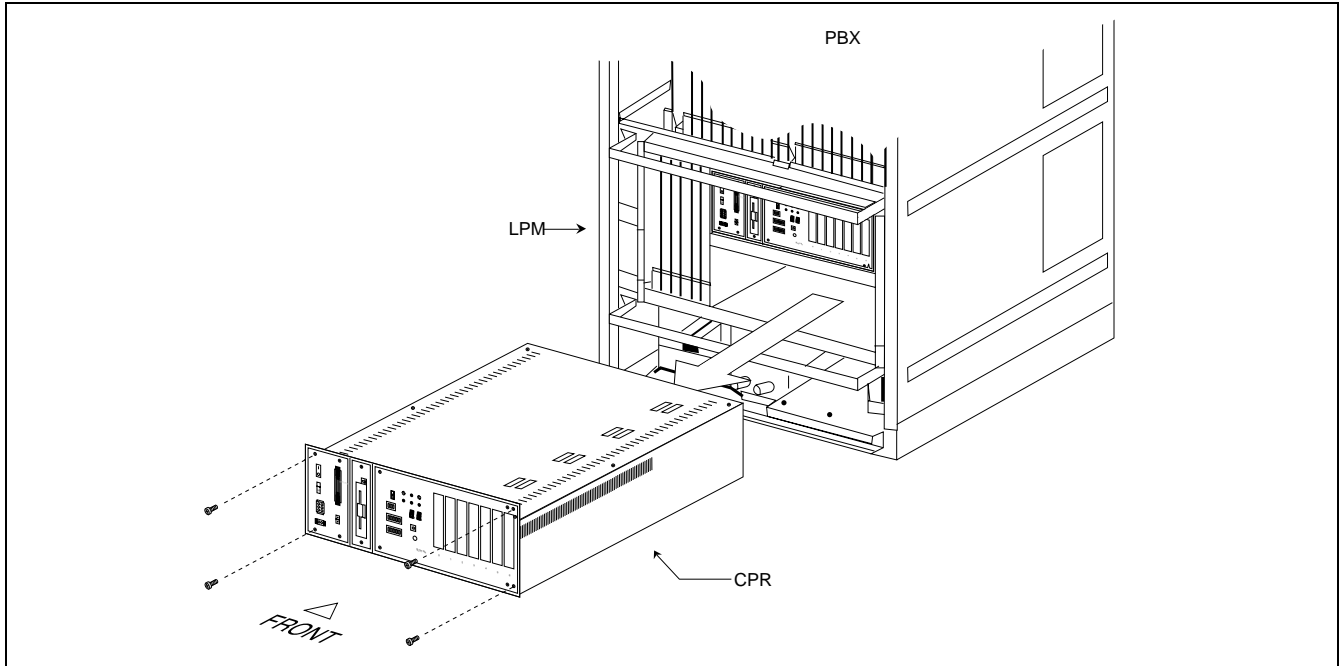

Figure 4-25 Extraction of CPR from LPM
STEP 5 Remove the front bracket, and then take off the four screws fastened onto the CPU. (Refer to Figure 4-25.)
STEP 6 Extract the CPR from the LPM. (Refer to Figure 4-25.)